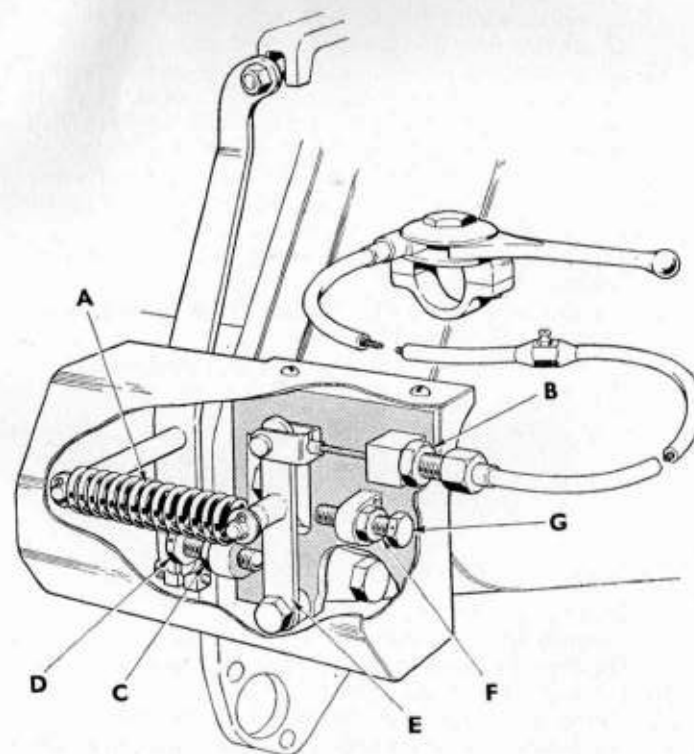

Fig. 7.
53. Variable Speed. (Fig. 7).
- (b) The centrifugal forces on the Governor Weight are transmitted by a sliding sleeve on the Governor Shaft, through a lever assembly. These forces are balanced by an adjustable Speeder Spring (A) on the Control Gear. Movement of the Control Lever, i.e. pulling cable, will increase the engine speed.
- (c) To adjust the Variable Speed Control. Set the Control Lever to the fully closed position and tighten or slacken the adjusting nut (B) until the correct idling speed is obtained.